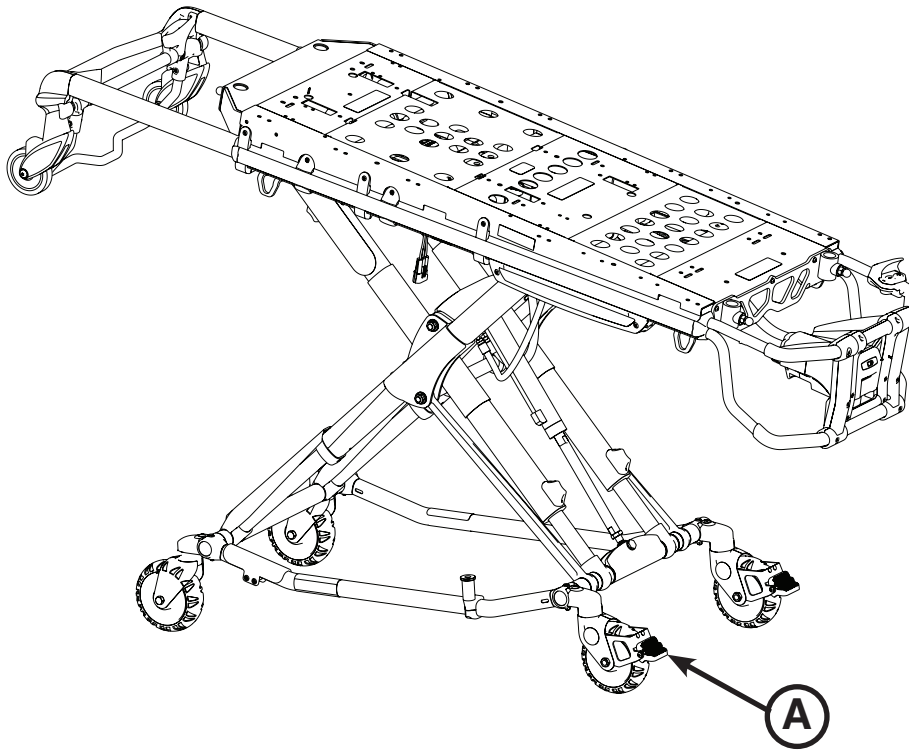

Figure 25 - Wheel Lock
To activate the optional wheel lock(s), press fully down on the pedal (A) as shown in Figure 25 until it stops and is resting firmly against the surface of the wheel.